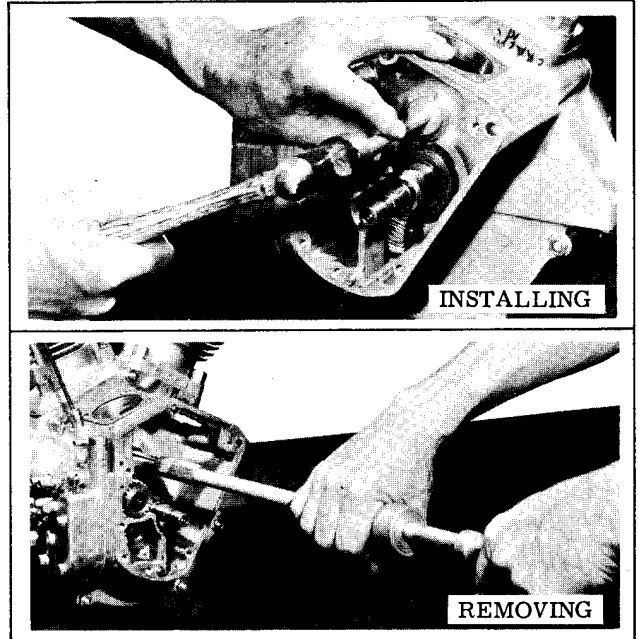

Figure 3-32. Removing and Installing Cam Gear Needle Bearing
6. Inspect needle bearing (36) for wear, broken or gouged bearings. If end of cam shaft shows any appreciable wear (.003 in. or more), needle bearing is probably worn to a point where replacement of bearing and cam shaft are advisable.
7. Needle bearing can be removed and installed in crankcase without disassembling crankcase with Puller Tool, Part No. 95760-69 (see Figure 3-80) as shown in Figure 3-32. Press needle roller bearing into crankcase with Tool, Part No. 97272-60 (see Figure 3-108) as shown in Figure 3-32. Press from heavier end having the manufacturer's name only. Pressing from opposite end will crush roller race and bind rollers. Push new bearing into crankcase from gearcase side. Pinion shaft main roller bearing may be replaced only when crankcase is disassembled (see "Disassembling Crankcase.")